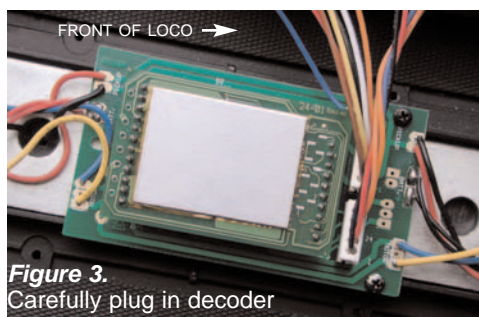

Figure 3. Carefully plug in decoder
3. Plug the DG383AR decoder into the socket making sure that 12-pin plug and the 10-pin plug on the decoder are installed into the correct sockets. (*Figure 3*) The ten pin connector is used only for support of the decoder board, it does not have any electrical connections. Seat the decoder firmly in the socket.